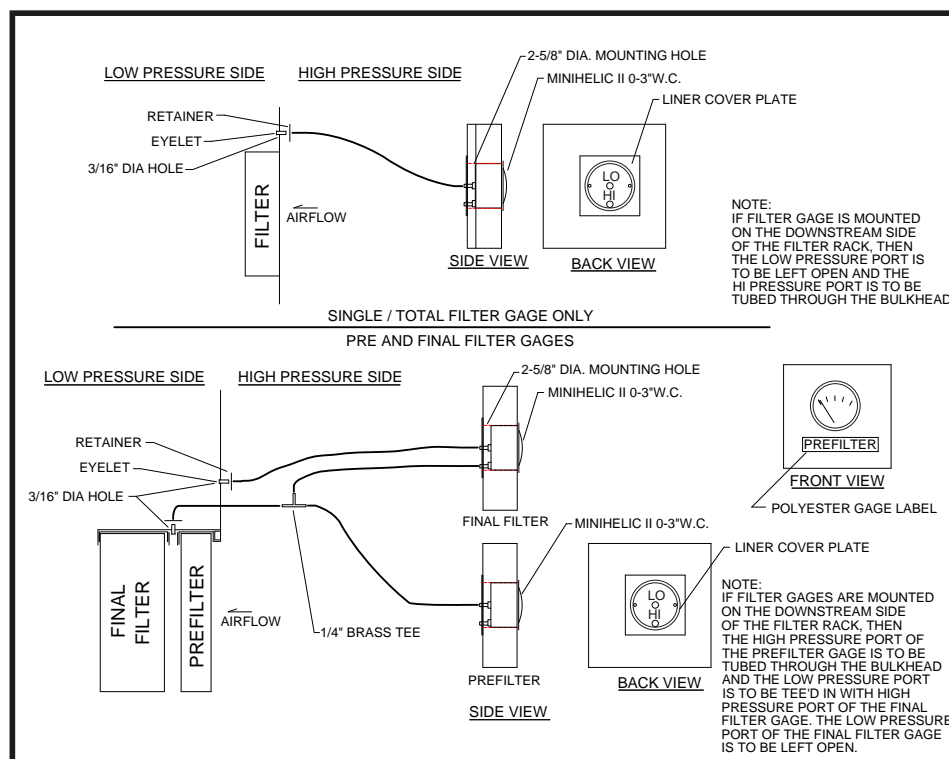

FIG. 5-106 – FILTER GAGE DIAGRAMS
8. Mount static pressure ports (eyelets) by drilling a 3/16" hole in the proper location(s) (*see Fig. 5-106 for a general filter gage mounting and tubing diagram*) and inserting this eyelet through the hole then installing the 3/16" push nut retainer onto the backside of the eyelet to hold it in place.